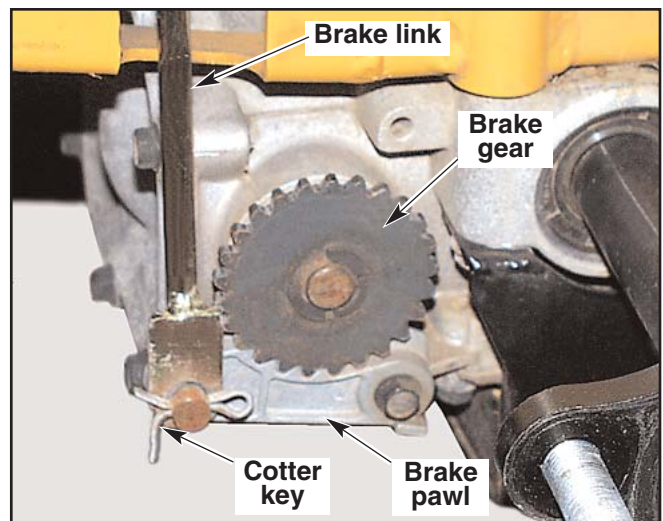

Figure 9-30
4. Remove the cotter key that connects the brake link to the brake pawl. Remove the brake link from the brake pawl. Fig. 9-30
9. Shut the engine off. Place the control levers in the neutral position and reconnect the brake link to the brake pawl. Re-insert the cotter key. Fig. 9-30
5. Place the control lever in the park brake position. The brake pawl should now be activated and engaging the integrated pump/motor brake gear. Fig. 9-30